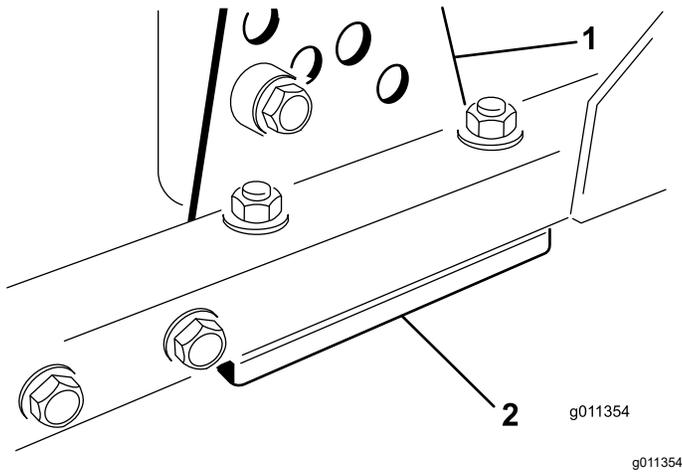

Figure 84
- Remove the height-of-cut bracket, (front, left, or right) from the cutting-unit frame (Figure 84).
- Insert 1.5 mm (0.060 inch) shims and/or 0.7 mm (0.030 inch) shims between the cutting-unit frame and bracket to achieve the desired height setting (Figure 84).